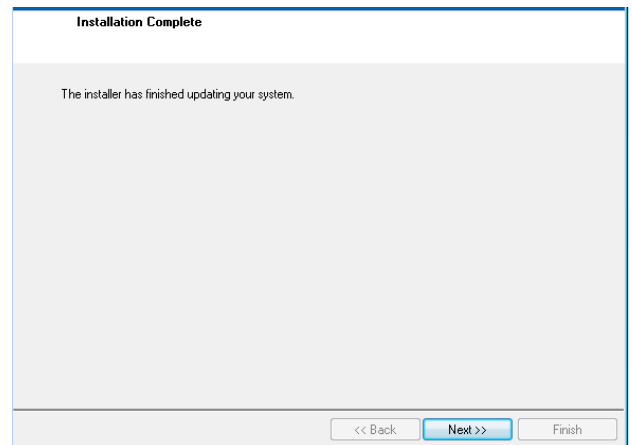

Figure 9. Indicating When the Installation is Complete
- A dialog box indicates when the installation is complete (see Figure 9). Click **Next**.